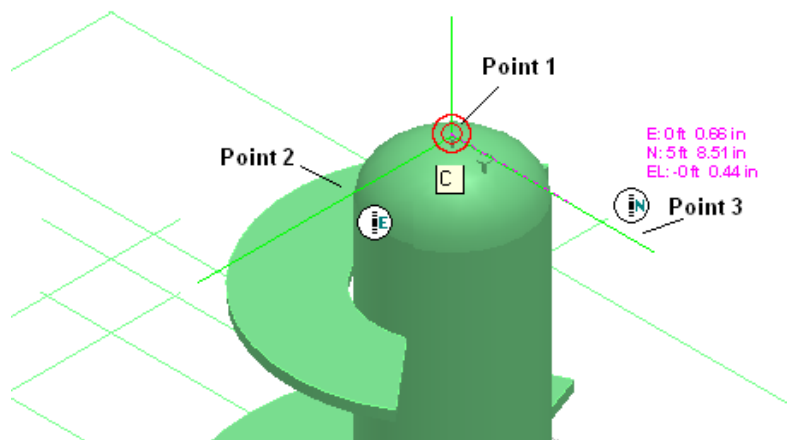

Figure 29: Define Coordinate System by Three Points
24. Place a temporary coordinate system on the equipment nozzle **C** using the **Define Coordinate System by 3 Points** option on the **PinPoint** ribbon shown in Figure 29.